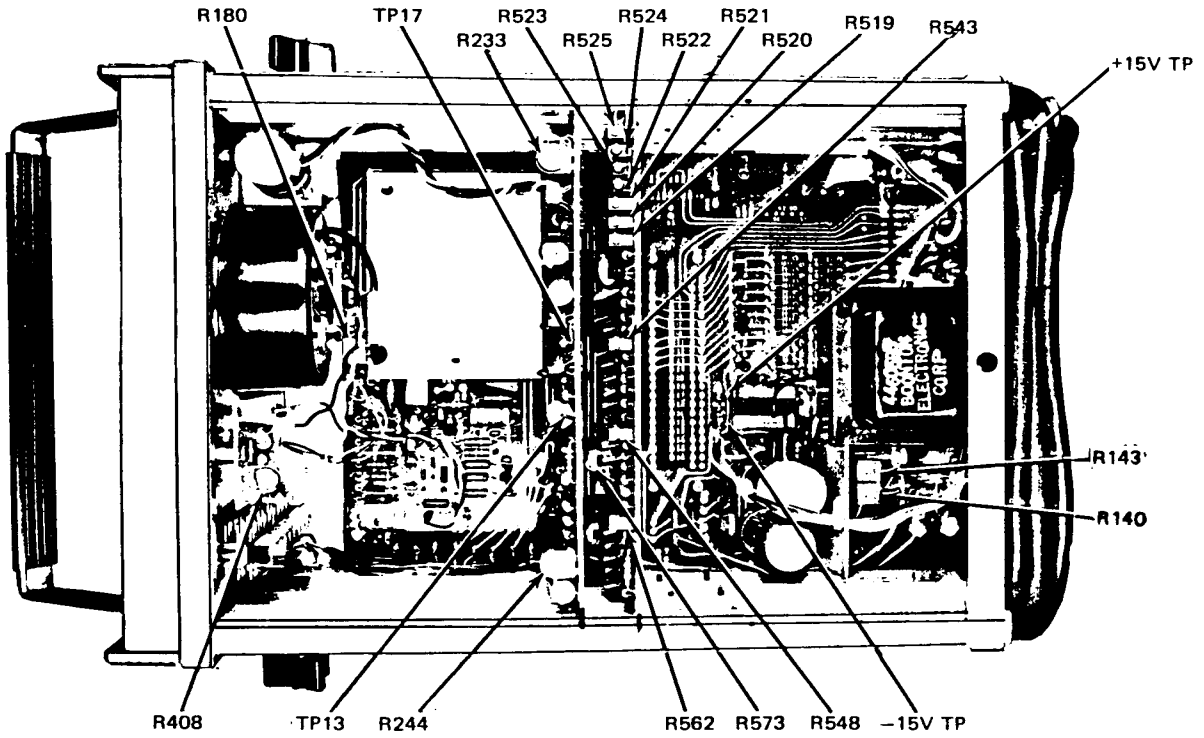
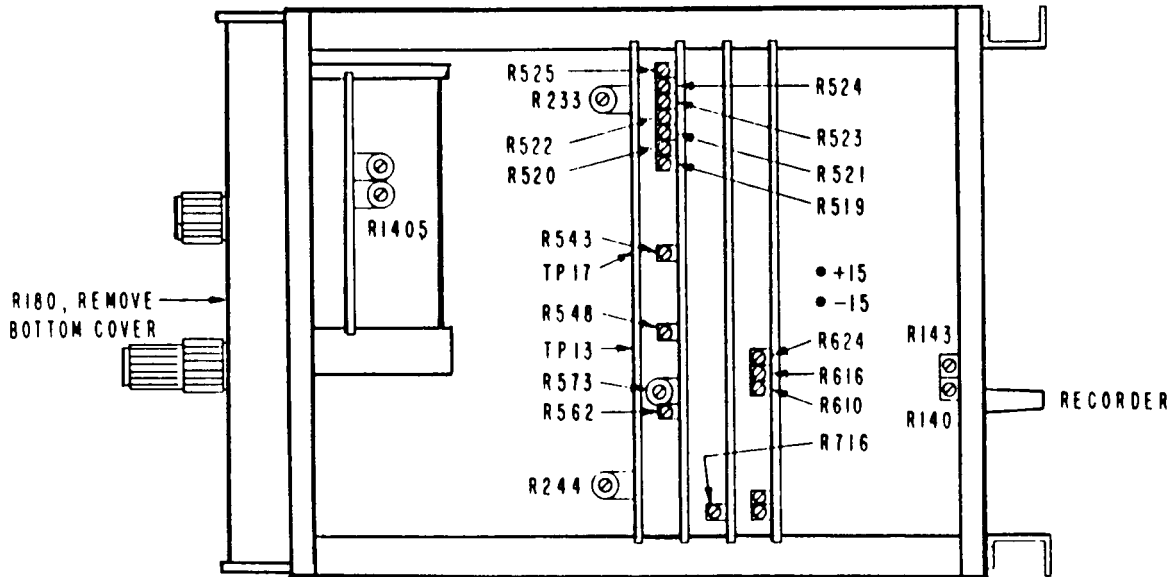

Figure 1. Model 42B - to view.
Figure 2. Model 42BD - top view.
(1) Adjust position of **CAL FACTOR** knob on shaft so that equal and opposite **CAL FACTOR** indications are obtained when control is set against stops (R).
(2) Adjust R573 (fig. 1 or 2) for a -31.0 dBm indication on TI meter (R).
(4) Adjust **ZERO** control to an average zero indication (downscale) on TI meter (minus sign flashes on and off). True rms voltmeter will indicate 100 mV or less.
(5) Set **FULL SCALE** switch to -30 dBm. If TI meter (model 42B) does not indicate zero (downscale), perform **b** below. For model 42BD, if multimeter does not indicate 0.0 V dc, perform **b** below.
b. Adjustments. Adjust R233 (fig. 1 or 2) for a zero indication (downscale) on TI meter (R). For model 42BD, adjust R233 (fig. 2) for 0.0 V dc indication on multimeter (R).
- (1) Adjust function/arbitrary generator output for an indication of 7.07 mV on true rms voltmeter.
- (2) Adjust R180 (fig. 1 or 2) for a -3.0-V dc indication on multimeter (R).
- (2) Adjust R523 (fig. 1 or 2) for a 10.0 V dc indication on multimeter (R).
(1) Adjust function/arbitrary generator output for an indication of -30.00 dBm on true rms voltmeter.
(2) Adjust R408 (fig. 1) or R1405 (fig. 2) for a -30 dBm (1.000 μW) indication on TI meter (R).
- (1) Adjust R610 (fig. 2) for a +10 dBm indication on TI meter (R).
- (2) Adjust R624 (fig. 2) for a -40 dBm indication on TI meter (R).
- (3) Adjust R610 (fig. 2) for a 0 dBm indication on TI meter (R).
- (4) Adjust R616 (fig. 2) until TI indicates a 10 dB difference from value recorded in **a** (11) above (R).
(1) Connect negative edge of frequency counter to **RECORDER** connector on rear panel and positive side of frequency counter to TP13 (fig. 2).
(2) Connect TI power detector to function/arbitrary generator **Output**.
(3) Zero TI meter as described in paragraph 7 h above.
(4) Set **FULL SCALE** switch to **-30 dBm**.
(5) Adjust function/arbitrary generator output for a -30 dBm indication on TI meter.
(6) Set frequency counter to measure period. If frequency counter does not indicate between 10.50 and 10.80 ms, perform **b** below.
b. Adjustments. Adjust R244 (fig. 1 or 2) for a 10.65 ms indication on frequency counter (R).